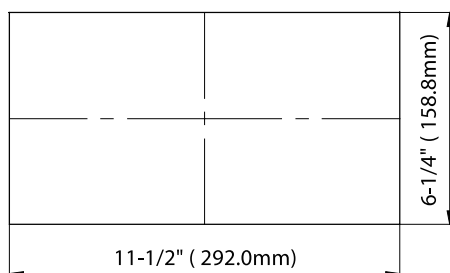

Figure 3
1. Cut a rectangular opening in the desired location of the canopy ceiling. See Figure 3 and 4.